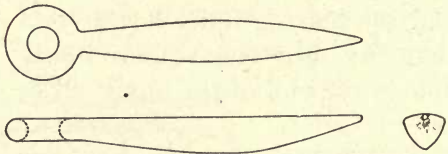

FIG. 193.—SHAPE OF HOOK BEFORE BENDING.
4. Shaping the hook. — The hook should be shaped complete before being bent. Figure 193
shows the shape required. Begin hammering at the eye and work towards the tip. A hook has a tendency to straighten out when strained, so to prevent this it must be strongest at the bend; therefore at that place the iron is left widest and thickest. The end view in Fig. 193 shows the best way to taper the iron towards the back.